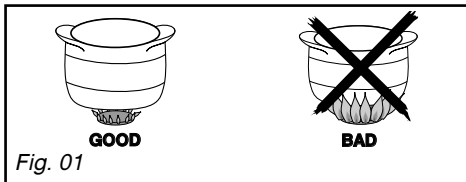

Fig. 01
– Adjust the ring of flames so that they do not extend beyond the edges of the cookware (Fig. 01).